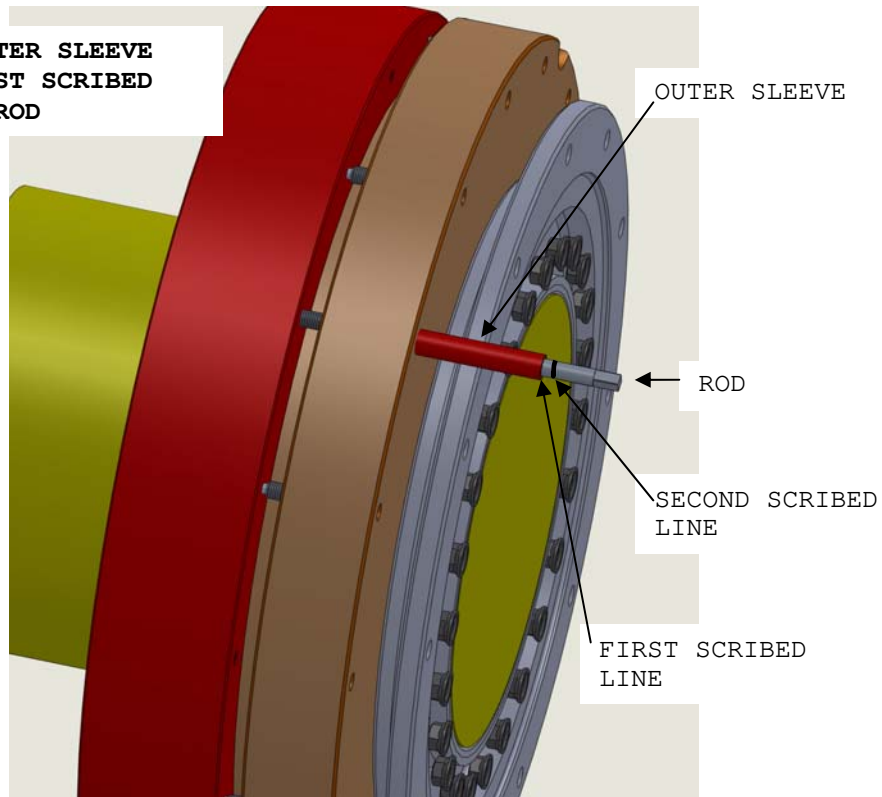

**Figure 5a - Compressor End - Setting Initial Grip Position**
2.4.8 The proper setting of the HTC is accomplished by the separation or gap between the two halves of the clamp (see Figure 1). Special Gap Tools (Riverhawk PN 7500602 for the motor end, and PN 7500485 for the compressor end) have been provided to facilitate this setting. Be sure you maintain the First Grip Position from the previous step until the tool is in place. Thread the gap tool into one of the retraction screw holes until the outer sleeve aligns with the first scribe line on the rod (see Figure 5a or 6a). The tool is spring loaded so you will need to push and turn in order to start the thread.